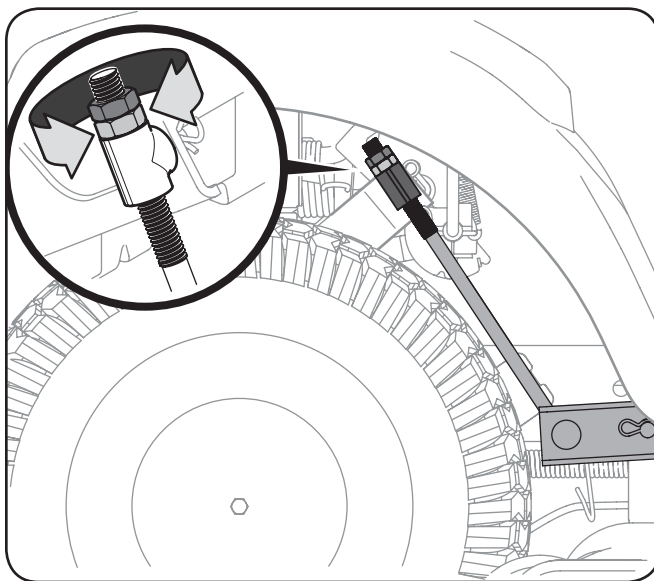

Figure 6-7
3. Under the rear fenders inside the wheels there is a lift adjustment rod for each side of the deck. See Figure 6-7.